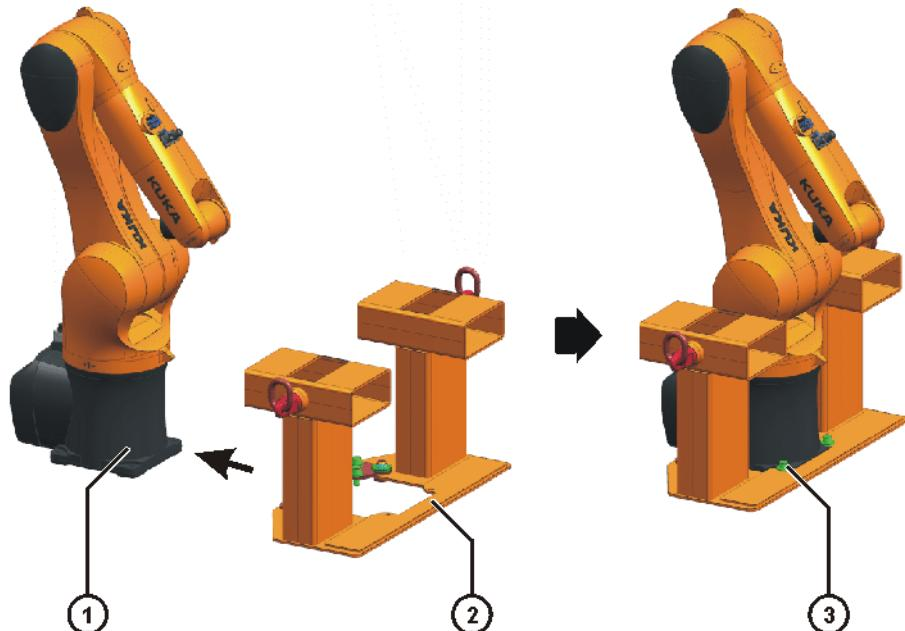

Fig. 8-9: Pushing on the Load Lifting Attachment and fastening it at the front
2. Carefully push the Load Lifting Attachment onto the base frame of the robot from the front (**>>> Fig. 8-9**).